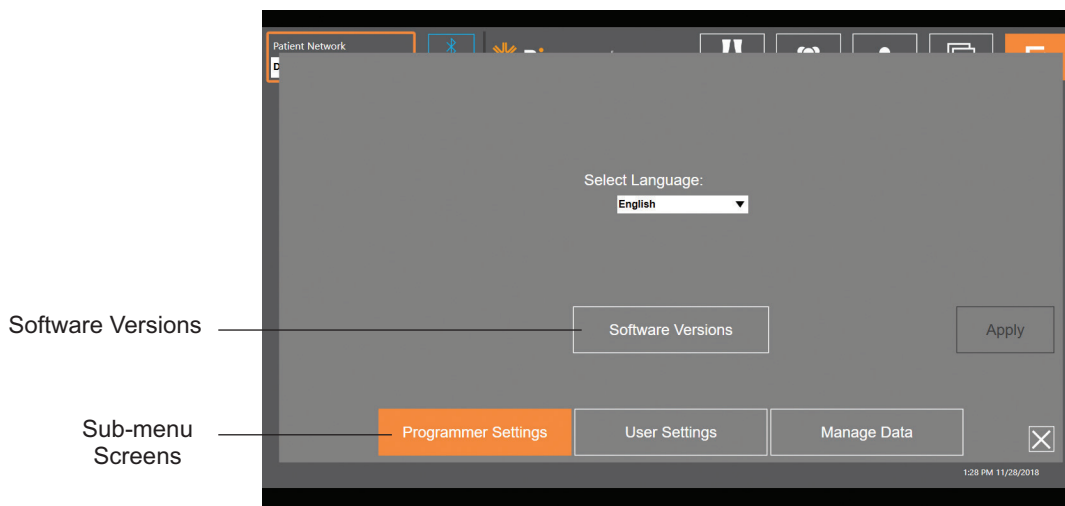
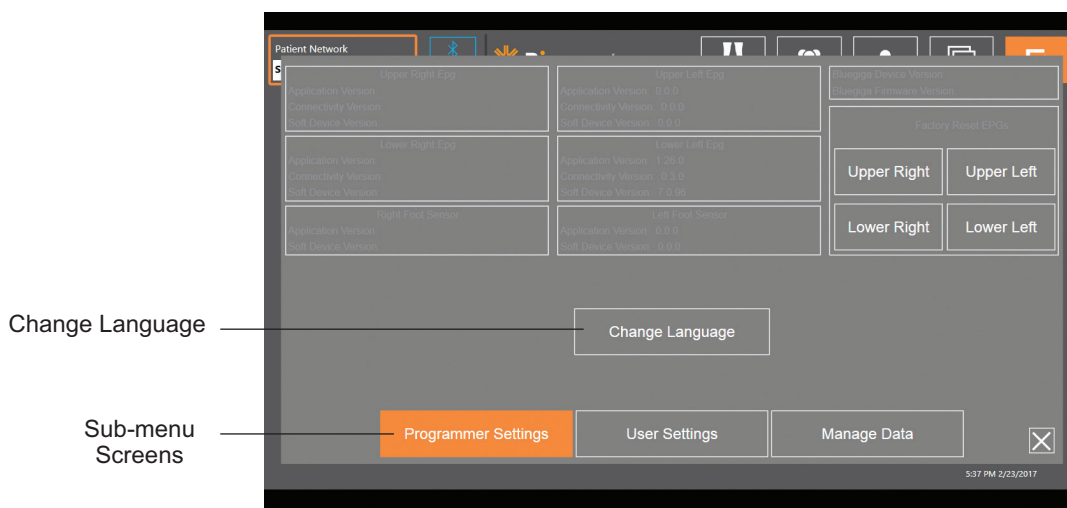

Figure 7-14: Application Settings Screen - Change Languages
Figure 7-15: Application Settings Screen - Software Versions
The Application Settings screen, accessed via the icon  available on each screen on the right lower corner of the screen, is used to adjust language settings, manage user profiles, and manage data. The Application Settings Screen consists of three sub-menu screens. See Figure 7-14.
- Programmer Settings: used to select a language setting, display software versions, and factory reset the EPGs. Press the Software Versions or Change Language button to toggle between the two available screens. See Figure 7-14 and Figure 7-15.
3. Click on Application Settings  and select Software Version to view the factory reset options. See Figure 7-14.